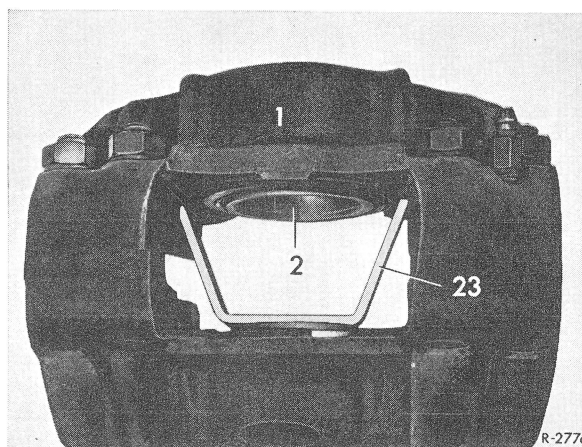

Fig. 4
4 A piston rusted to the caliper bore cannot be forced out with compressed air, since the pressure required to release the piston would have to be very high. Proceed by holding the piston which is still moving with holding device (23) in caliper (Fig. 4). Remove both heat shields from pistons first. Then release stuck piston (2) by means of master cylinder and force out of bore.